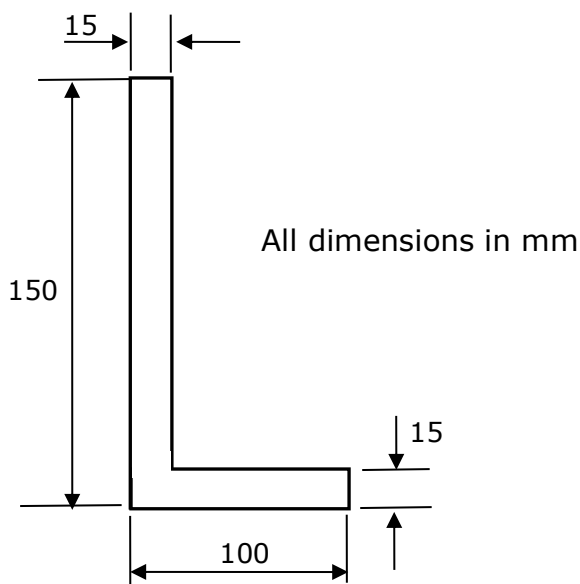

Fig. Q1
1. For the angle section shown in Fig. Q1, determine: